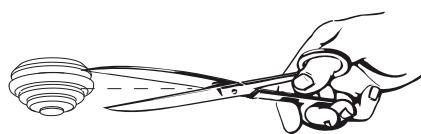

Fig. 4
- 5) Put all the grommets in the pre-drilled holes of the box and drive the cables/wires (fig. 4).